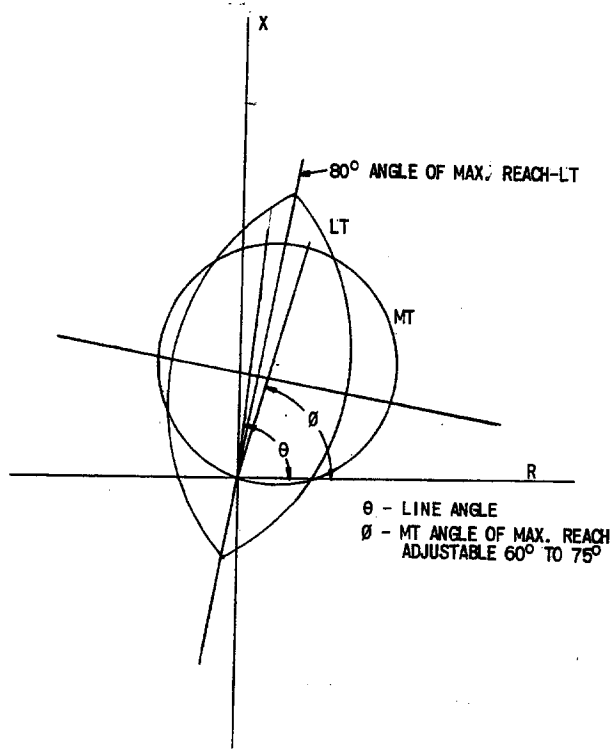

FIG. 5 (0257A8327-D) OFFSET LENS CHARACTERISTIC SLYL51A RELAY
The lens characteristic may be checked over its entire range by using the test circuit employing a phase shifter and phase angle meter as shown in Figure 5 with connections per Table I.
- (a) Set up the test of Figure 5 and make the AC connections per Table for the particular phase being tested.
The F 120 filter card contains four potentiometers; P61, P71, P10 and P52. P61 is a filter adjustment potentiometer that is set in factory test and sealed. This potentiometer must not be re-adjusted. The phase shift adjustment potentiometer, P71, is set to provide the proper relationship between the operating quantities (IZ-V) and (IZ\*+V\*). This setting may be checked by applying a single phase voltage (30VRMS) to the input terminals of the phase under test, i.e. LA2 - LA3 for Ø1-2, and monitoring a 180° phase difference in the square wave outputs at the associated filter card pins 8 and 9. P10 and P52 are forward and reverse reach calibration potentiometers respectively and are adjusted to provide the proper operating point (reach) at the angle of maximum reach. Their adjustment is made using the characteristic test circuit of Figure 5 with the phase shifter set for the forward and reverse angles of maximum reach. Clockwise potentiometer rotation raises the operating point and vice versa.